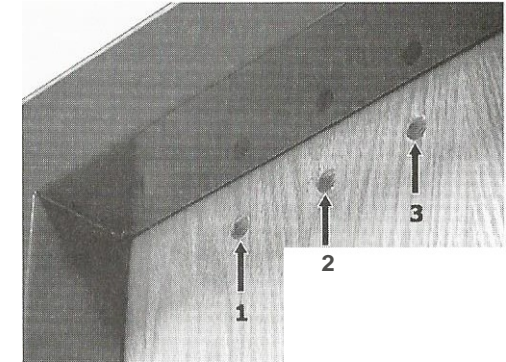

Figure 6. Installation Drill Holes
**NOTE 1:** Figure 6, "Installation Drill Holes," provides illustration for the following steps.